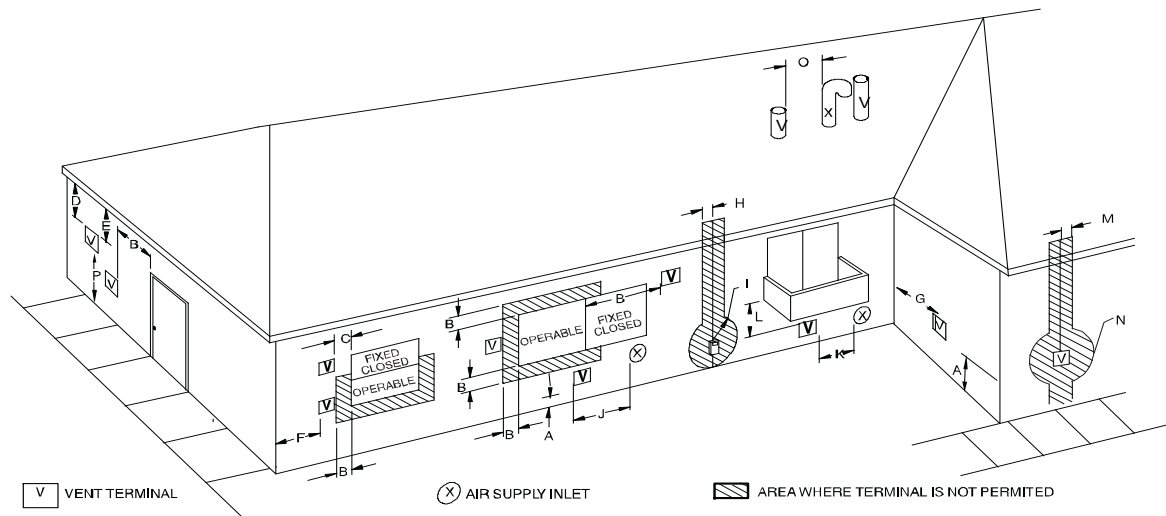
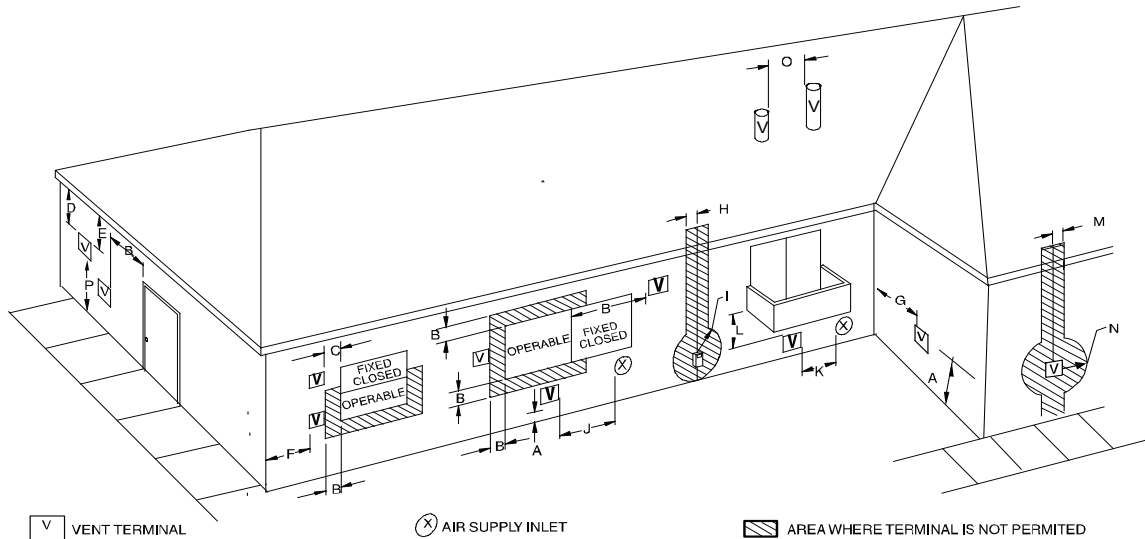
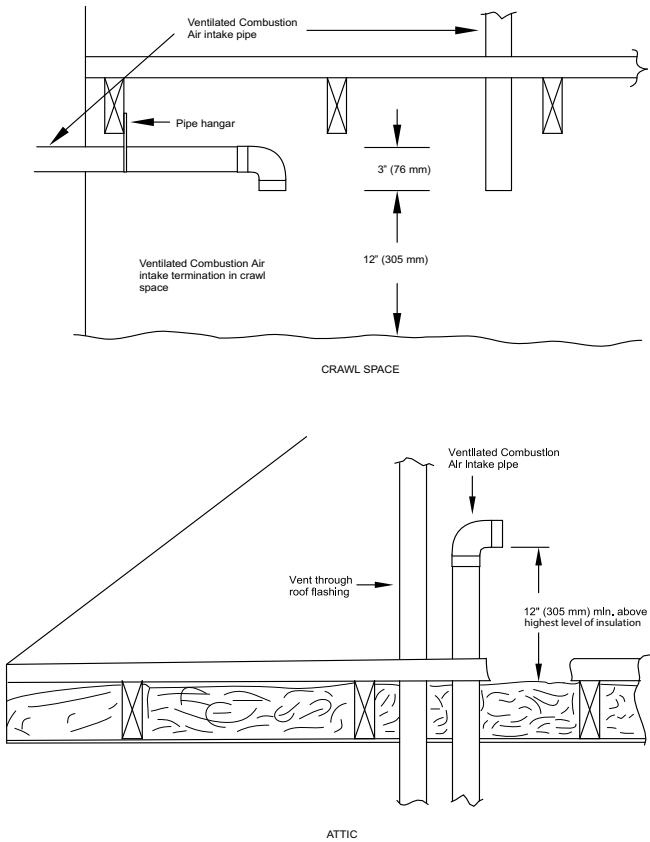

Fig. 43 – Direct Vent Termination Clearance
Fig. 44 – Ventilated Combustion Air and Non-Direct Vent Termination Clearance
Fig. 48 – Vent Terminations for Ventiladed Combustion Air
In a direct vent (2-pipe) system, all air for combustion is taken directly from outdoor atmosphere, and all flue products are discharged to outdoor atmosphere. Combustion-air and vent pipes must terminate together in the same atmospheric pressure zone, either through the roof (preferred) or a sidewall. See Fig. 43 for references to clearances required by National code authorities.
In a ventilated combustion air option, the vent terminates and discharges the flue products directly to the outdoors similar to a direct vent system. See Fig. 44 for references to clearances required by National code authorities.
For vent termination clearance, references to National codes are shown in Fig. 43 for Direct Vent/2-Pipe system and Fig. 44 for Ventilated Combustion Air system. For exterior termination arrangements, refer to Fig. 40 for Direct Vent/2-Pipe system and Fig. 41 for Ventilated Combustion Air system. Contact Local code authorities for other requirements to and/or exemptions from the National codes shown in the figures.
1. Comply with all clearance requirements stated in Fig. 43 or Fig. 44 per application.
Direct vent (2-pipe) vent and combustion air pipes must terminate outside the structure. See Fig. 43 for references to vent clearances required by National Code Authorities. Allowable vent and combustion air terminations are shown in Fig. 40.
The vent pipe for a Ventilated Combustion Air System must terminate outdoors. See Fig. 44 for references to vent clearances required by National code authorities. Allowable vent terminations are shown in Fig. 41. The combustion air pipe terminates in a well-ventilated attic or crawl space. Follow the clearances as shown in Fig. 48.